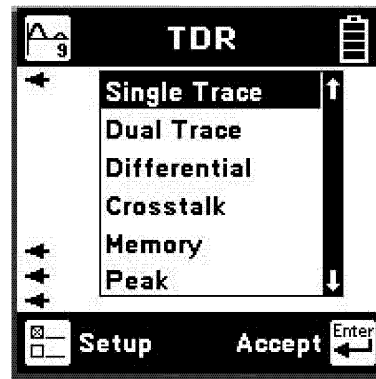

Figure 15. AST900 TDR Single Trace Selection
- (5) Use the  and  keys and Blue numeric keys to change the velocity factor for the selected wire type or use the default setting.
b. Single Trace (Figure 15).
- (1) Press the  or  keys to move to the desired mode (shown in Figure 15).
- (2) Insert the supplied coaxial TDR test lead into the Red and Black test jacks on the meter.
- (3) Connect one TDR test lead to a single conductor or one side of a pair under test.